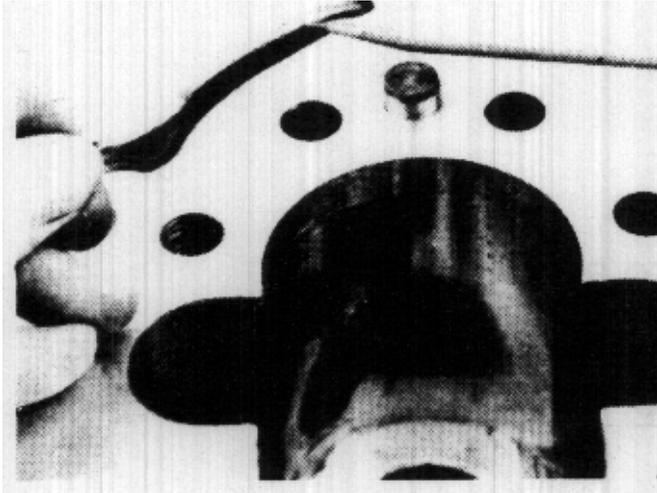

FIGURE 94
31. Examine the isolation plates. You will note that they are slightly different. Choose the two having rounded edges as shown. Install these two (11) in the bottom of the motor body with the rounded edges down and in their proper location. (No isolation plates in SPM25.) (Fig. 94)